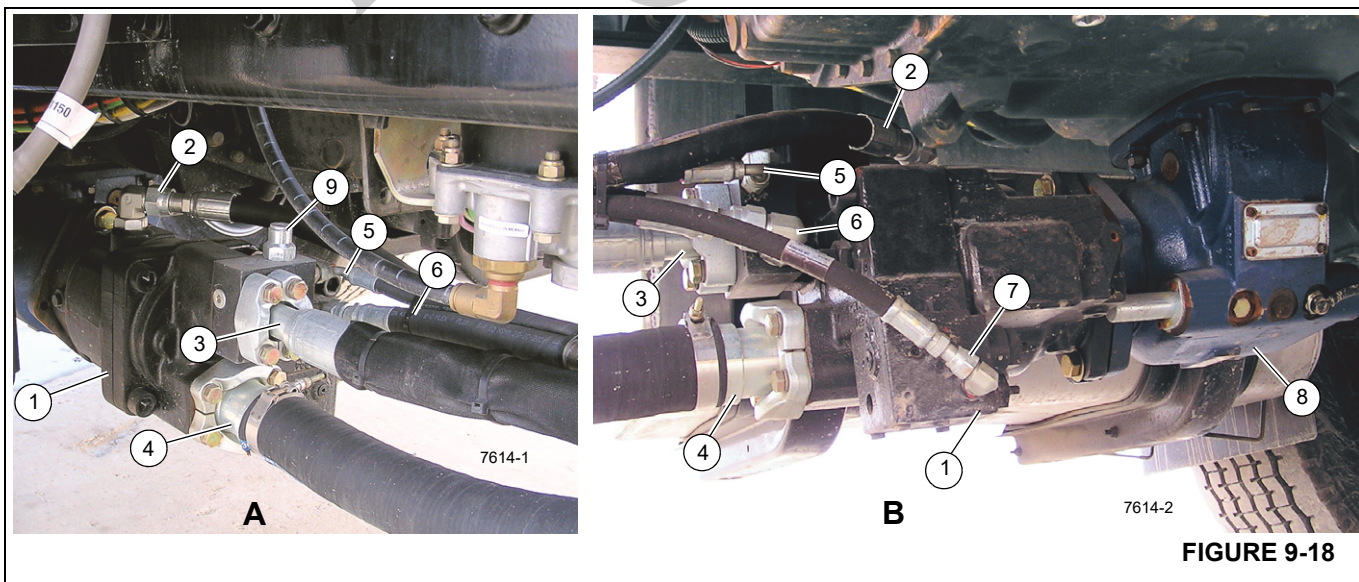

FIGURE 9-18
The hydraulic system pressure is supplied by a hydraulic piston pump (1, Figure 9-18) mounted on the truck power take off (PTO) (8). The pump is driven counter clockwise and supplies 75 gpm.
10. If using the configuration shown in Figure 9-18 be sure to position the case drain port (2) at the highest point above ground level.
14. Remove the dust covers from the pump inlet and outlet ports and install the hydraulic fittings and lines, see Figure 9-18.
In Figure 9-18 photo A is from the drivers side; photo B is from the passengers side.
Figure 9-18 item Numbers